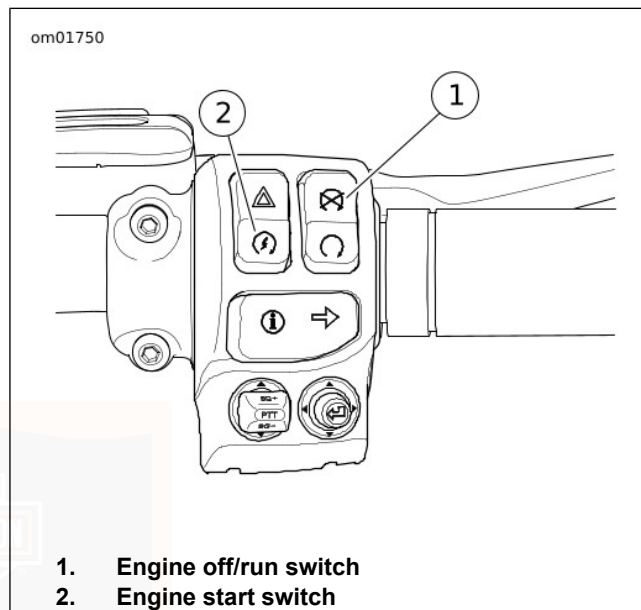

Figure 35. Right Handlebar Controls
2. See Figure 35. With the security system fob present, turn the off/run switch to RUN position.